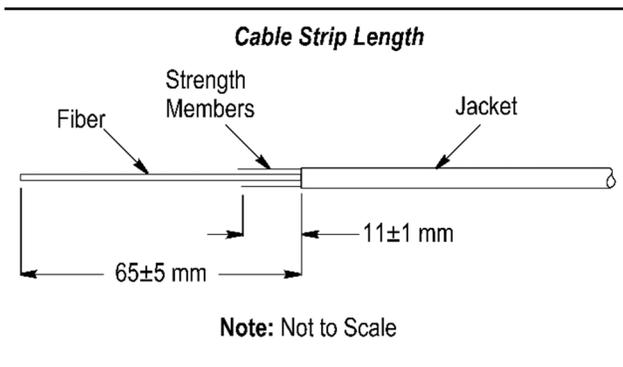

Figure 3
2. Using the cable jacket strip tool, strip the jacket to the dimension given in Figure 3, exposing the strength members and fiber. Save the stripped piece of cable jacket for later use.
3. Using the aramid fiber shears, trim the strength members to the length given in Figure 3.